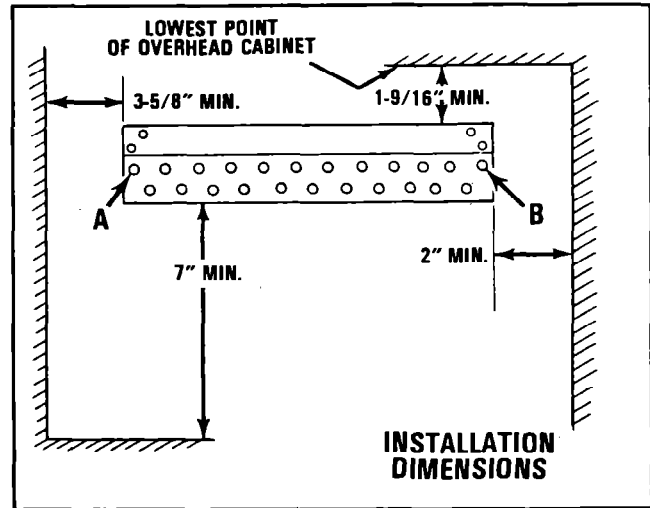

FIGURE 5
4. Using the wall bracket as a template, mark holes "A" and "B." See Figure 5.